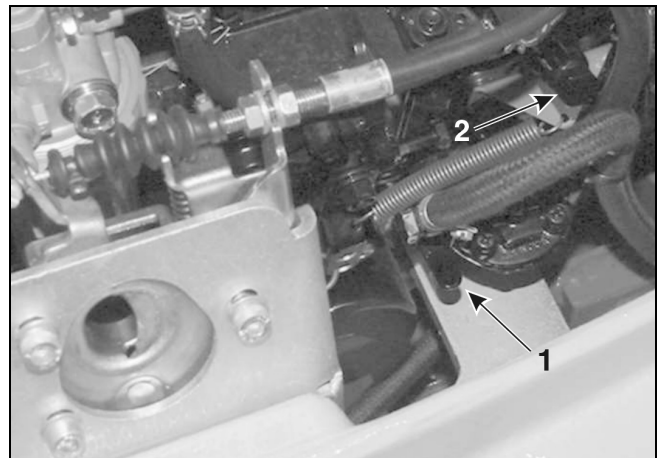

Figure 4-13 – Primer Pump Lever (Earlier Machines)
3. Locate the primer pump lever on the fuel injection pump. See 1, Figure 4-13.
- c. Locate the bleed screw on the injection pump (2, Figure 4-13). This bleed screw looks like a bolt head on the “banjo” fitting at the right side of the fuel injection pump. Loosen the screw and allow fuel to come out until bubbles are not present. Tighten the bleed screw.